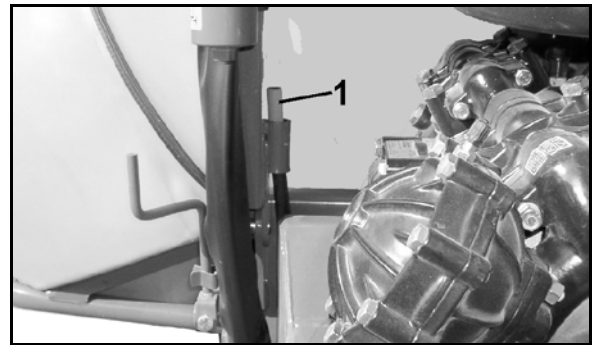

Fig. 49
- The red marking (Fig. 49/1) of the stand check display is visible when the machine is placed on the hydraulic stand.